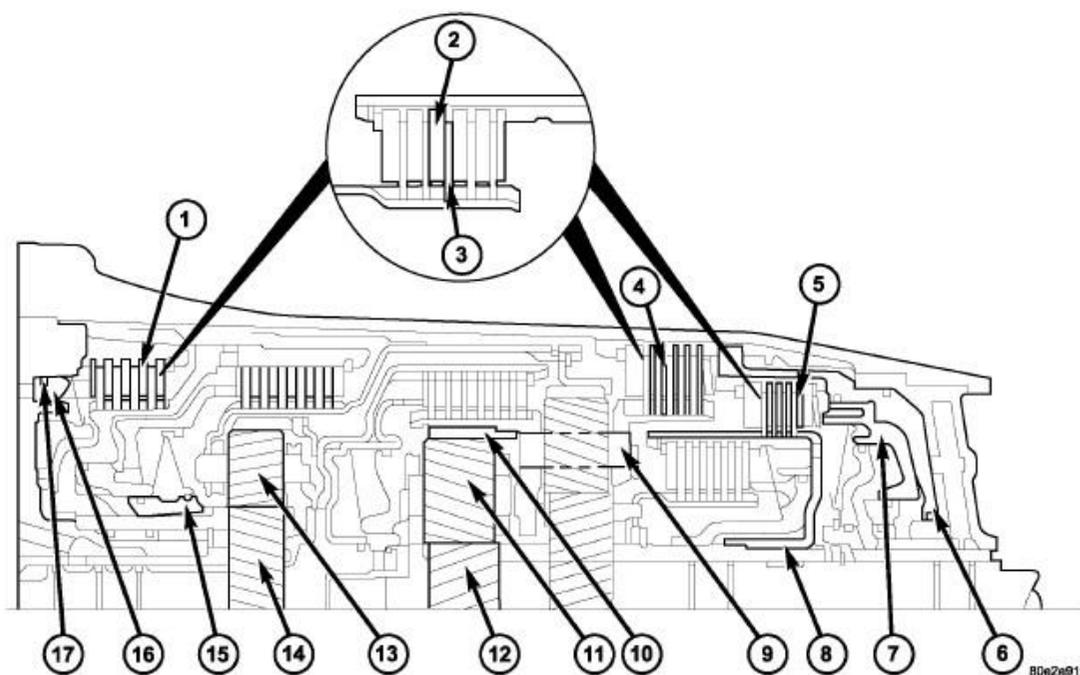

Fig. 169: Identifying Holding Clutches
Three multiple-disc holding clutches, the front, B1 (1), middle, B3 (4), and rear multiple disc clutches, B2 (5), are located in the planetary gear sets in the transmission housing. Refer to **Fig. 169**.